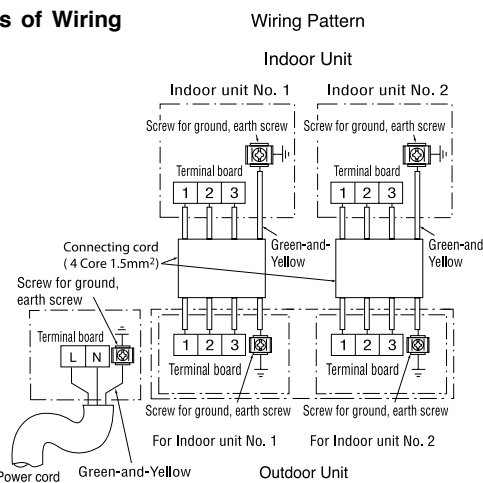

Fig. 3-1
- Connect the electrical wiring between the Indoor and Outdoor unit, as shown in Fig. 3-1. Never connect the wiring by mistake. In case of wrong connection, the unit does not operate properly and it may cause malfunction.